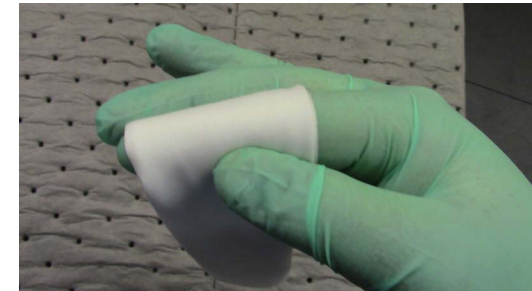
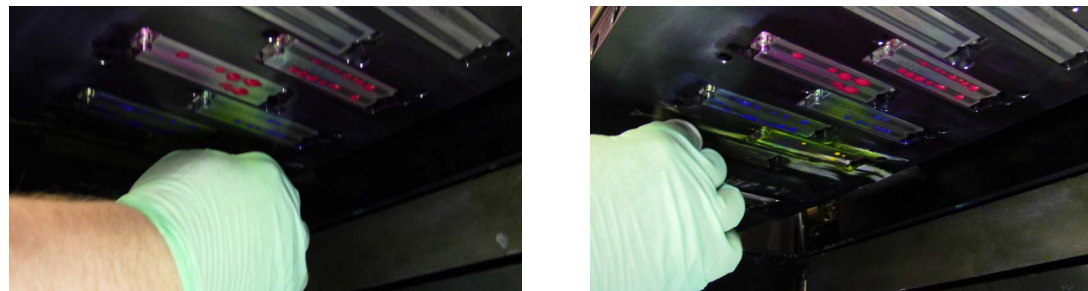

Figure 4-3 Holding wipe between fingers
Figure 4-4 : Wiping print heads
6. Apply UV maintenance fluid to the wipe and then position the wipe between your fingers, Figure 4-3, and place wipe parallel to the print head plate at the carriage rear, Figure 4-4.